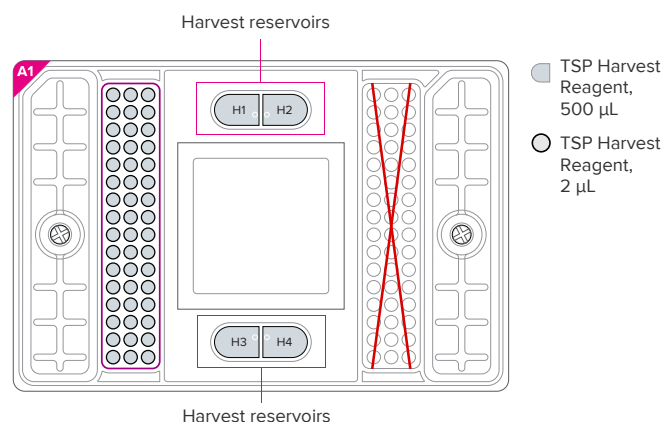

Figure 6. Pipetting map for harvesting the IFC
- 2 Remove the remaining fluids from the H1–H4 harvest reservoirs (see Figure 6)
- 3 Pipet 650 μL of fresh TSP Harvest Reagent into the H1–H4 harvest reservoirs (see Figure 6).
- 4 Pipet 2 μL of TSP Harvest Reagent into each of the sample inlets on the IFC (see Figure 6).